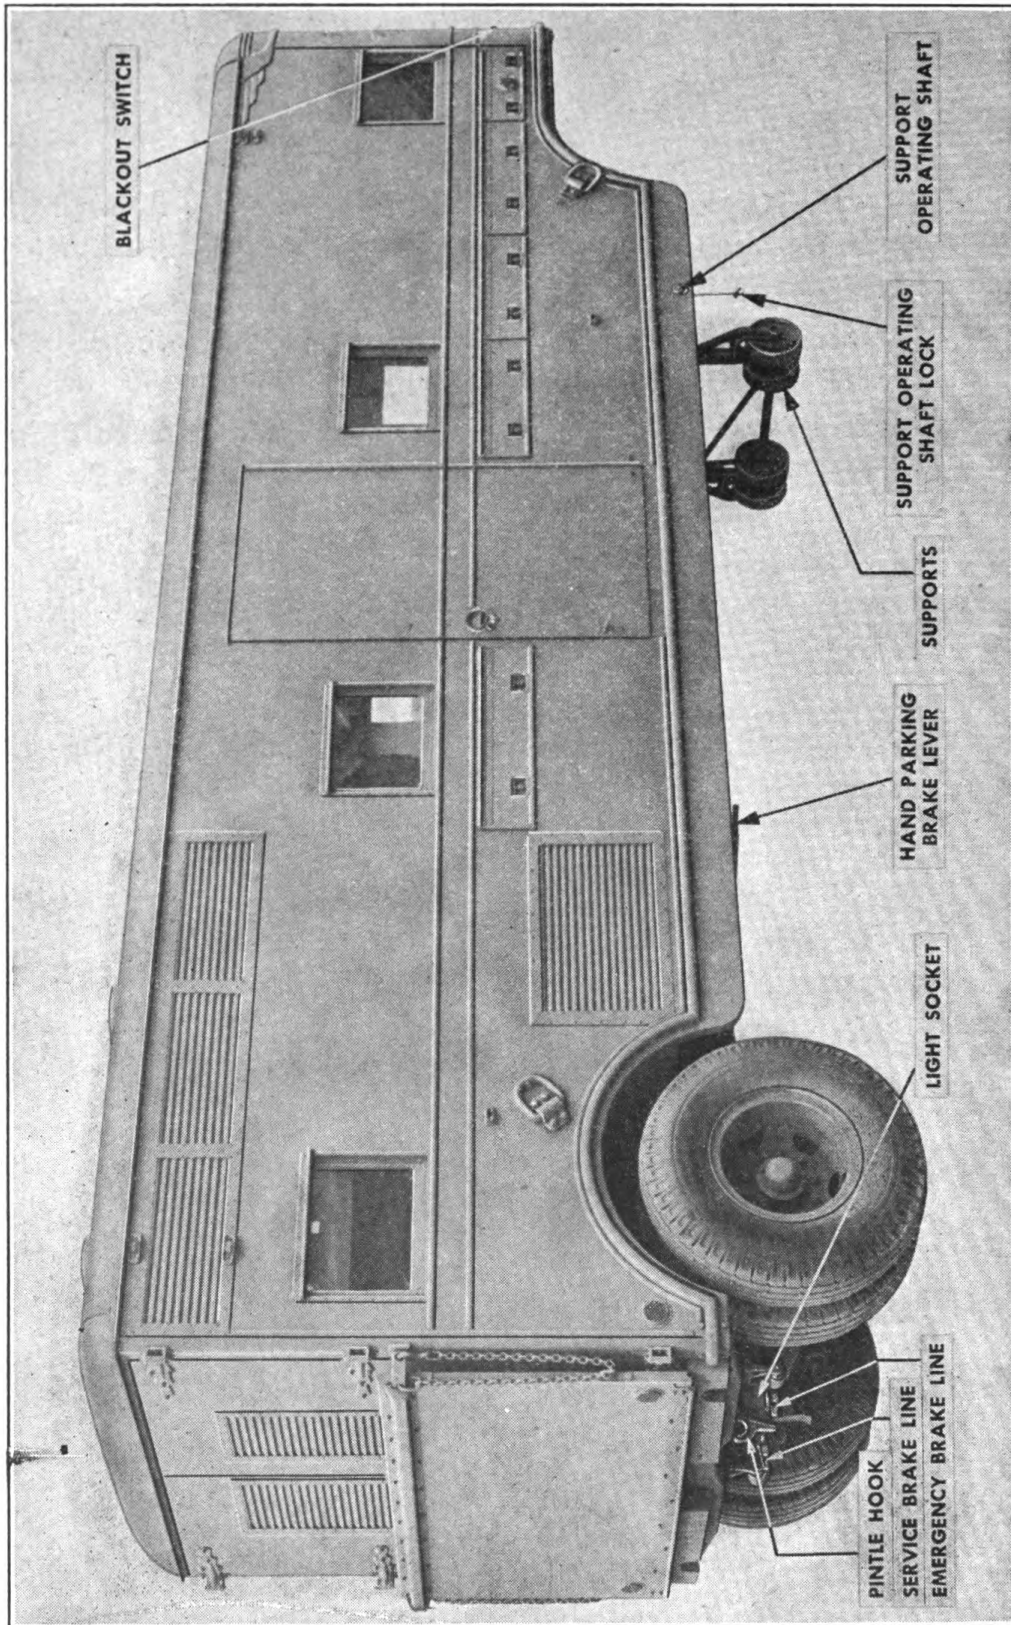

FIGURE 4. CONTROLS—FULL VIEW—RIGHT SIDE.
*e. Hand brake (Fig. 4).—*The hand brake is located at the extreme rear of the trailer. By pulling the brake lever toward the rear, the brakes are applied. The hand brake can be used as a parking brake or as a supplement to the truck brakes, when slowly descending steep grades.
*f. Light sockets (Figs. 4, 5 and 8).—*This unit is equipped with three light sockets: one in the center of the trailer at the front, one on the front crossmember of the dolly frame, and one at the rear of unit next to pintle hook. A jumper cable connection between these sockets provides current from the towing vehicle for either the dolly or the trailer lighting system, or any vehicle which may be towed behind the semi-trailer.
*g. Supports (Fig. 4).—*Supports are manually operated by a detachable crank which is inserted through hole in the skirting on the right side of trailer. Supports may be lowered or raised by turning the crank. Supports should be lowered prior to disconnecting tractor-truck or dolly. A lock, inserted into the support or crank shaft, prevents supports from vibrating to the down position when unit is in motion.
*i. Air brake couplings (Figs. 4 and 8).—*The semi-trailer is equipped with five air hose brake couplings, two at the rear of unit, two at front of unit, and one in center of trailer at the drop in the frame on the under side. Air is supplied to dolly and semi-trailer and to vehicle towed behind the semi-trailer through these couplings. Each coupling is provided with a dummy coupling to prevent foreign matter from entering the braking system when air hoses are not coupled. Shut off valves are provided at the two rear couplings on the semi-trailer and at the coupling used to couple semi-trailer and dolly. This arrangement permits the operator to shut off the air prior to disconnecting air hose.